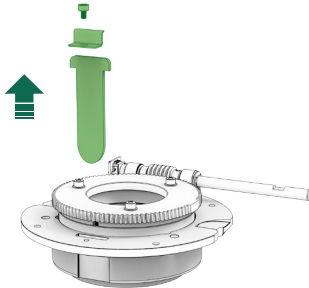

Fig. 12
12.4.3. Use a #3 Hex Allen key to untighten the screw that holds the curtain, and pull up to release (**Fig. 12**).